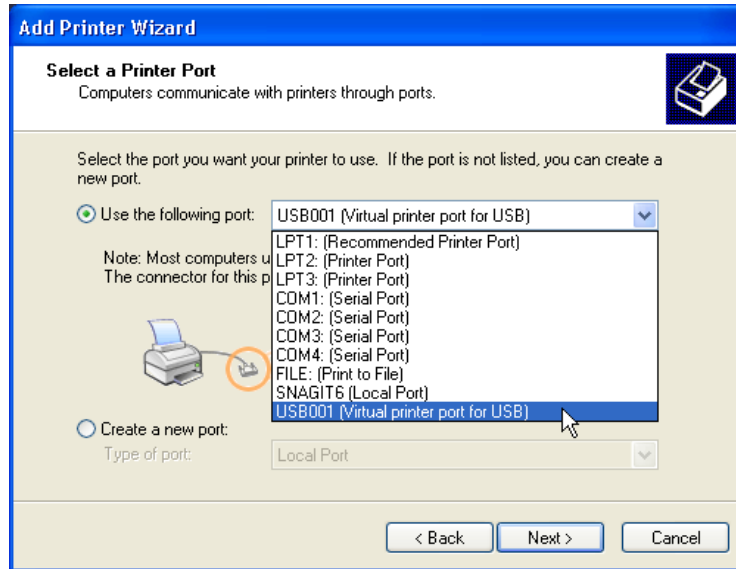

Figure 3-34 Select Printer Port
- 7.) Select the corresponding Printer Port (e.g., Figure 3-34 = USB001) and click NEXT.